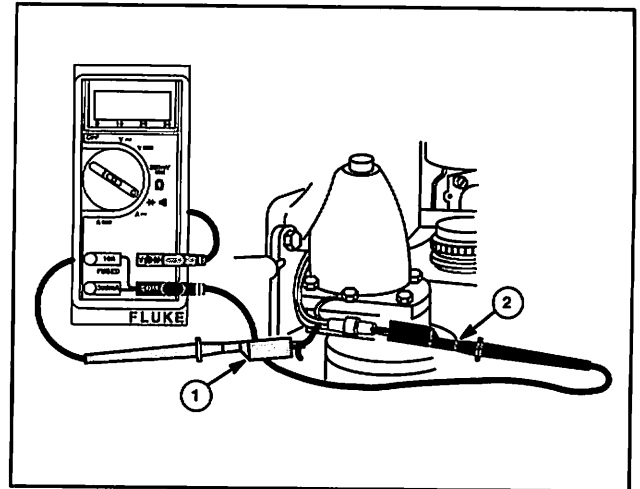

Fig. 24
1. Insert RED test lead (1) into $V \Omega \rightarrow$ receptacle in meter.
2. Insert BLACK test lead (2) into COM receptacle in meter.
5. Pierce one output wire with a pin and touch RED test lead probe to pin as shown in Fig. 24, Typical.